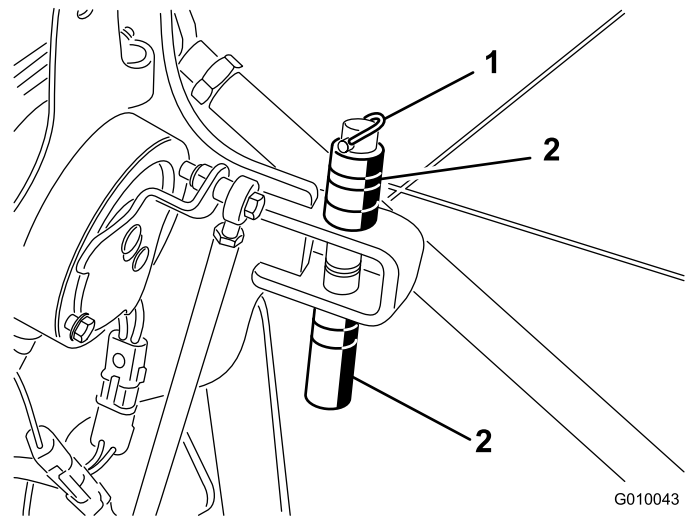

Figure 28
1. Remove the lynch pin retaining the spacers and depth pins (Figure 28).